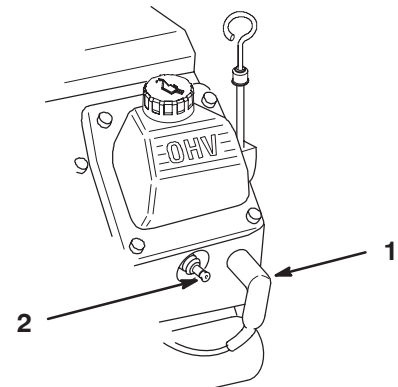

Figure 22
2. Pull the wires off of the spark plugs (Fig. 22).
3. Push the wires onto the spark plugs (Fig. 22).